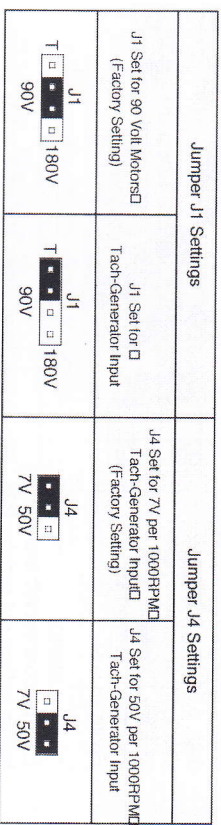

FIGURE 18 – DC TACH-GENERATOR VOLTAGE SELECTION
D. DC Tach-Generator Voltage Selection (J1 and J4) – For a tach-generator wired to TB3, set Jumper J1 to “V” position. See Figure 18. Jumper J4 is factory set to “7V” position for 7 Volt per 1000 RPM tach-generators wired to TB3. For a 50 Volt per 1000 RPM tach-generator, set Jumper J4 to “50V” position.